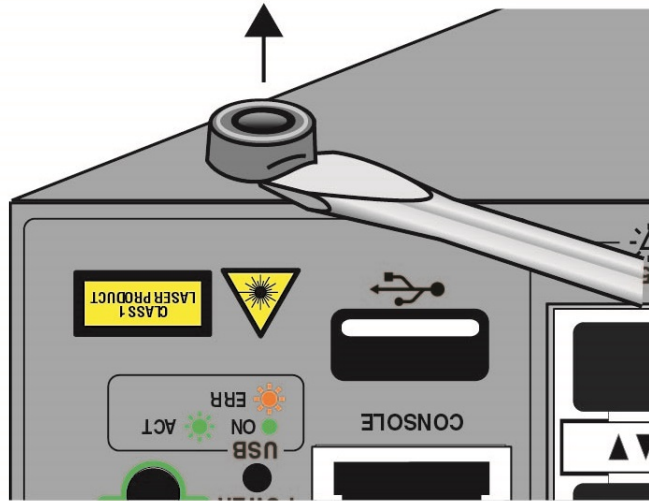

Figure 89. Removing the Bumper Feet
2. Use a small flat-head screwdriver to gently pry the feet from the bottom of the switch. Refer to Figure 89.